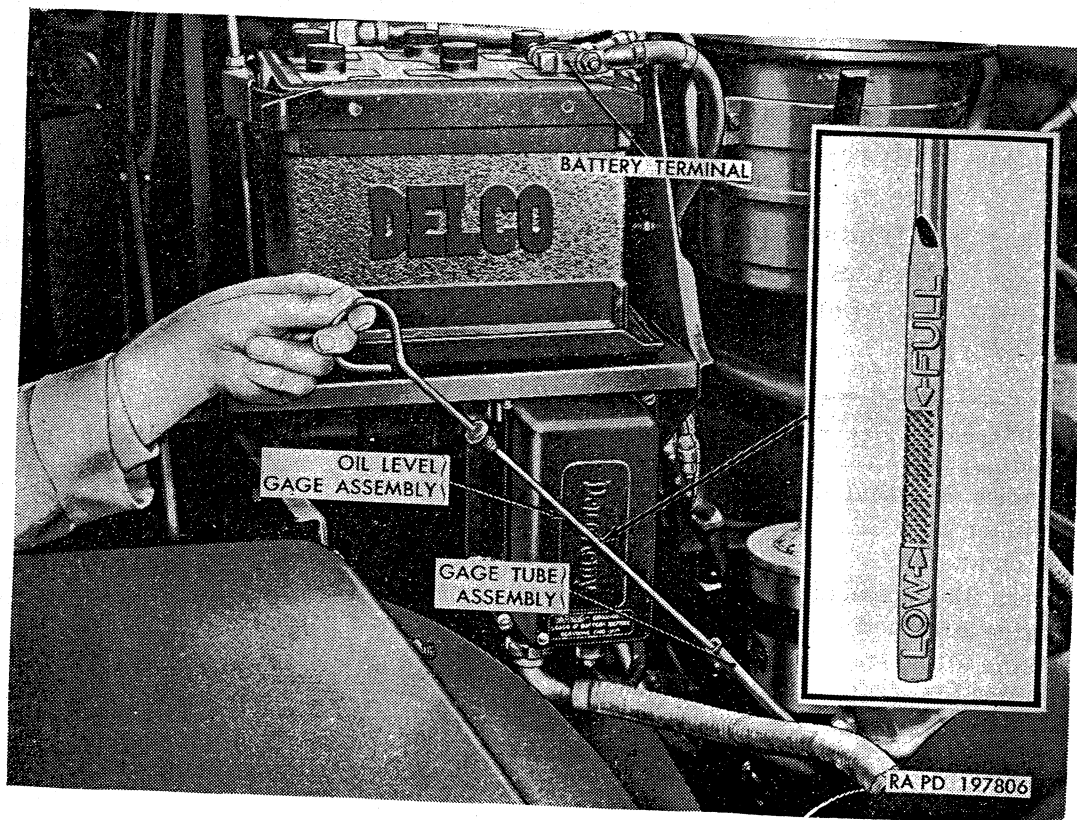

Figure 91. Checking crankcase oil level.
*a. General.* Engine crankcase is equipped with a bayonet-type oil level gage for use in checking crankcase oil level. Gage is marked FULL and LOW (fig. 91). Plug in oil pan cover (D, fig. 81) is magnetic-type and is removed to drain engine oil from crankcase. Refer to lubrication chart (par. 69) and accompanying notes for type and viscosity of oil to be used in crankcase, as well as intervals for checking and changing oil.
*b. Oil Level Gage Tube.* If oil level gage tube assembly (fig. 91) is not installed correctly, the gage may strike battery terminal when withdrawn to check crankcase oil level. This causes a short circuit. To prevent short circuit of this nature, make corrections described in (1) and (2) below.
(1) Loosen the gage tube retaining nut at oil pan; then turn tube to move upper end toward distributor. Tighten tube retaining nut.
(2) Inspect battery cable terminal; if terminal protrudes over edge of battery, loosen terminal clamp bolt and position so cable will run parallel to battery toward engine.
*c. Checking Crankcase Oil Level* (fig. 91). Check crankcase oil level when engine is thoroughly warmed up and after engine is stopped. Allow sufficient time after stopping for oil to drain back into oil pan.